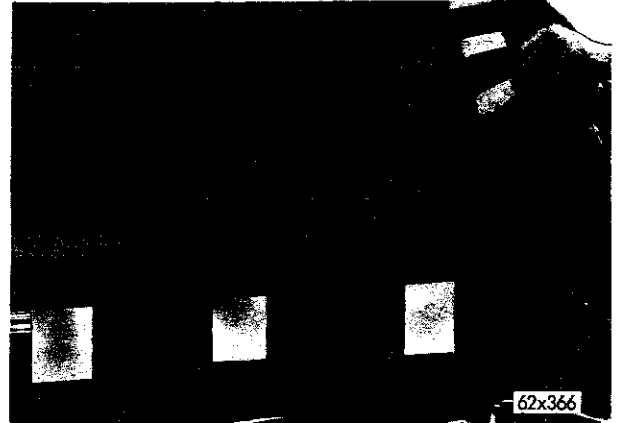

Fig. 14—Testing the Deck Lid Seal
**Inspecting for a Correctly Fitted Deck Lid (Fig. 14)**
A correctly fitted deck lid is one that is centered in the opening, and fits flush with the body panels. A test for proper fitting and seal of the deck lid can be made with strips of paper. Insert the strips of paper (about an inch wide) along the edge of the deck lid opening and close the lid. (See Fig. 14). If the papers fit snug all along the edges of the lid as they are